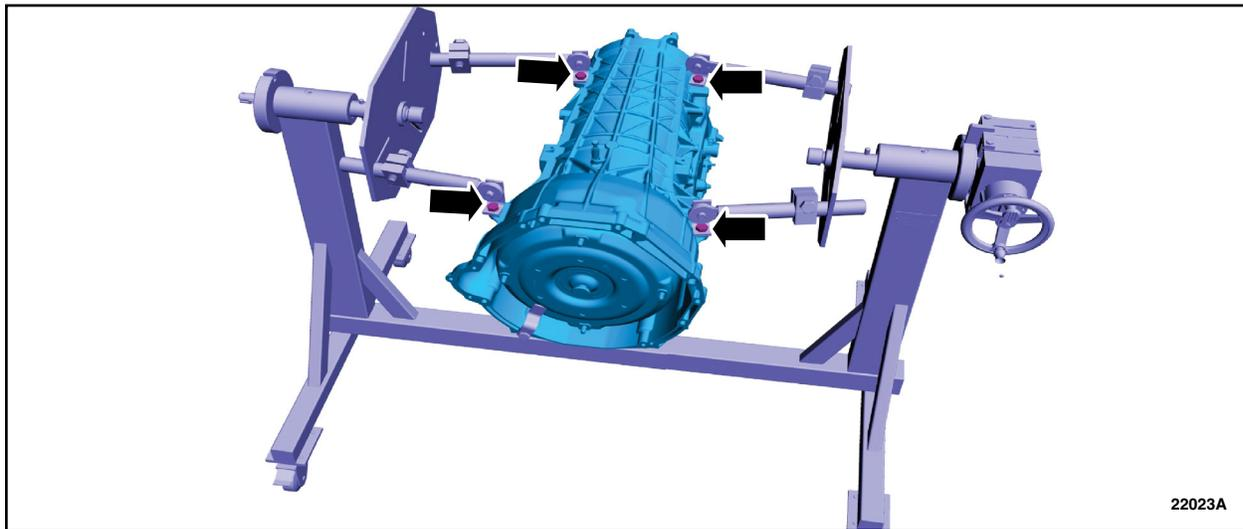

FIGURE 1
2. Mount the transmission to the General Equipment: Mounting Stand. See Figure 1.